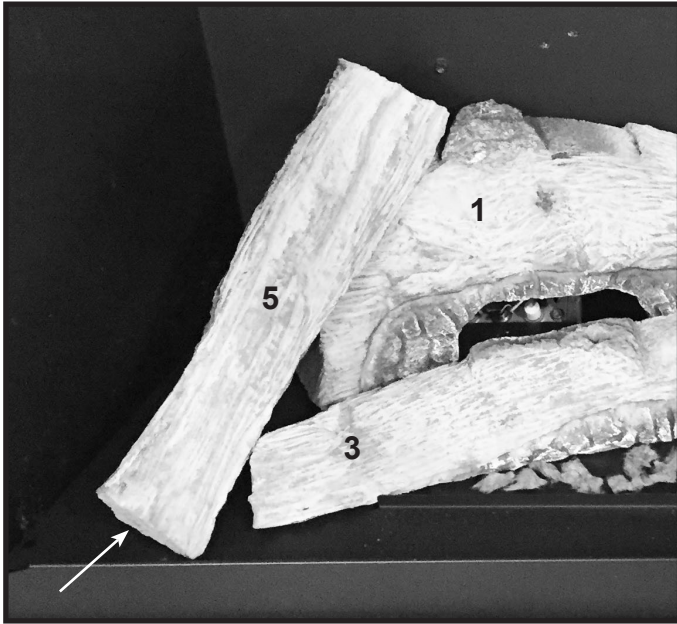

Figure 9. QUARTZ36: Install Top Left Log
7. **QUARTZ36 MODELS ONLY:** Locate and install Top Left Log (5). This Log does not have any “burn out” features painted on the log. The “left” end of this log will rest on the base pan and the “right” end will rest on the “left” end of Left Rear Base Log. See Figure 9.